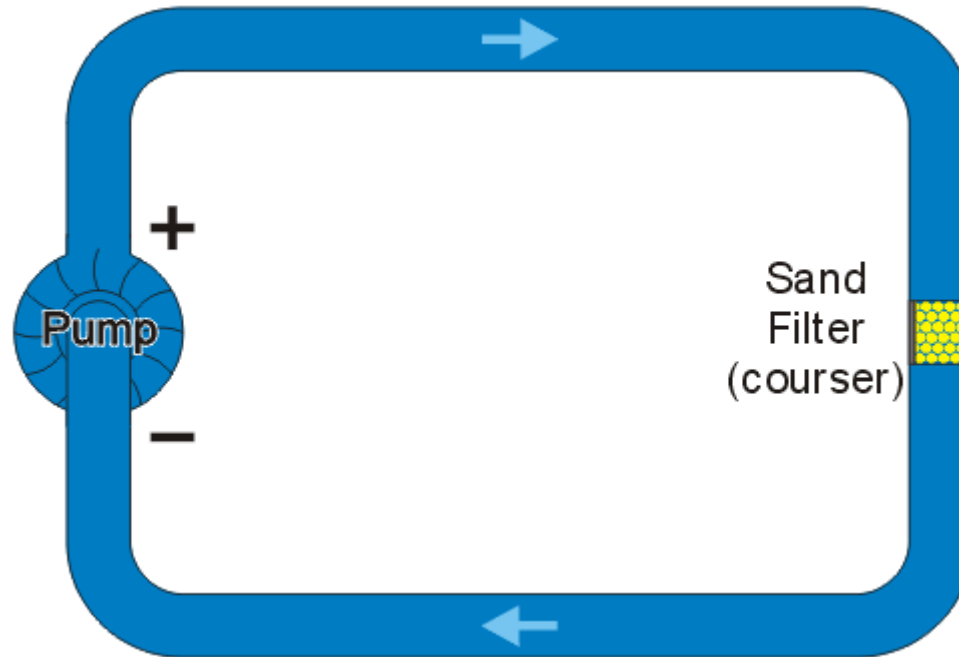

Fig 3: Loop of water with a coarse sand filter
- If the sand is replaced with a courser sand, as is shown in **Fig.3**, there will a corresponding lower resistance as there are larger gaps between the sand particles and consequently, the water will be able to more easily pass through the filter.